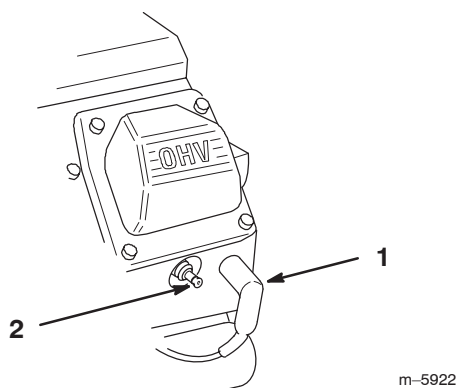

Figure 42
3. Pull the wires off of the spark plugs (Fig. 42).
3. Push the wires onto the spark plugs (Fig. 42).